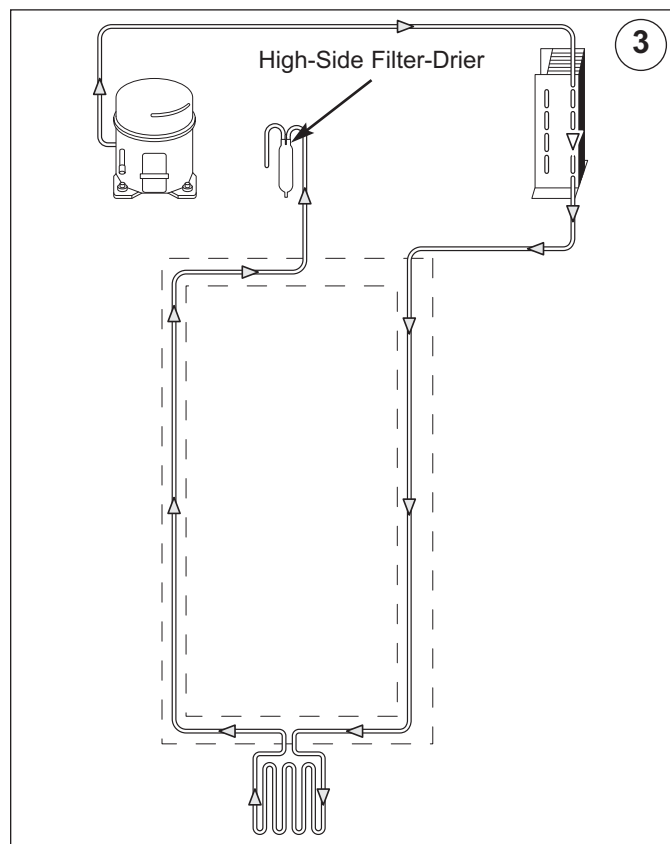

Figure 4-3. High-Side Filter-Drier
(3) - High-Side Filter-Drier (Figure 4-3)